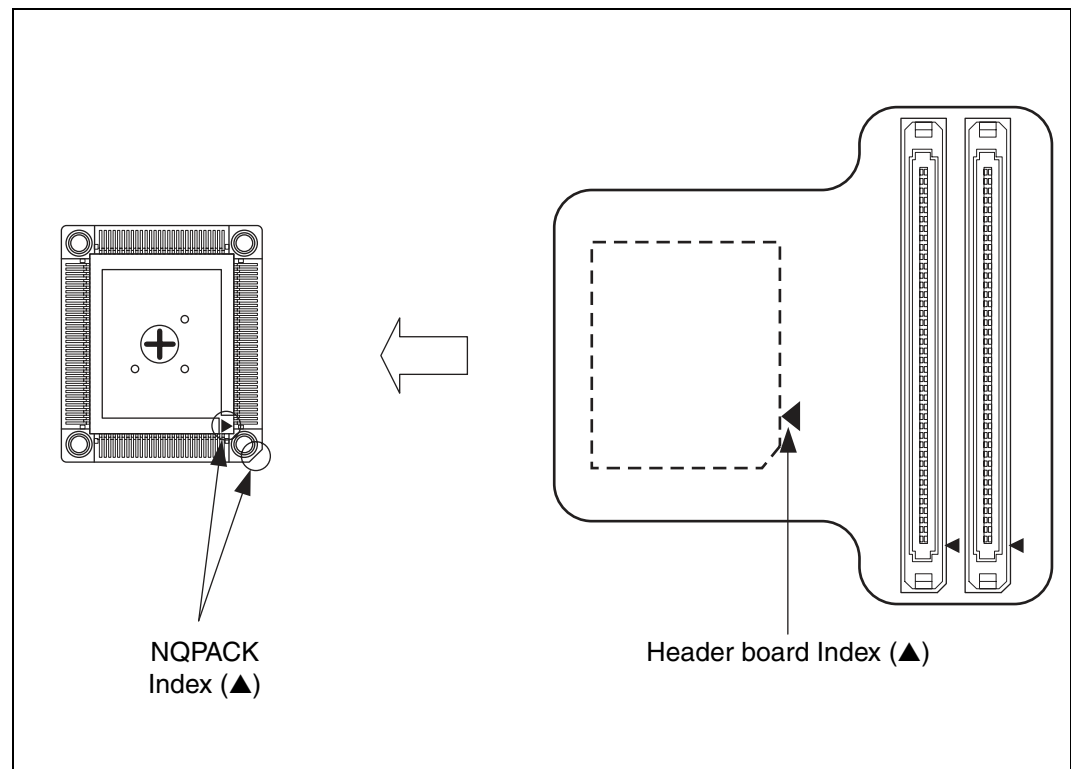

Figure 3 Index position
1. To connect the header board to the user system, match the first pin of the index mark (▲) on the NQPACK mounted on the user system with the index mark (▲) on the header board and then insert it (See Figure 3). The pin of YQPACK is thin and easy to bend. Insert NQPACK after confirm that the pin of YQPACK is not bent.